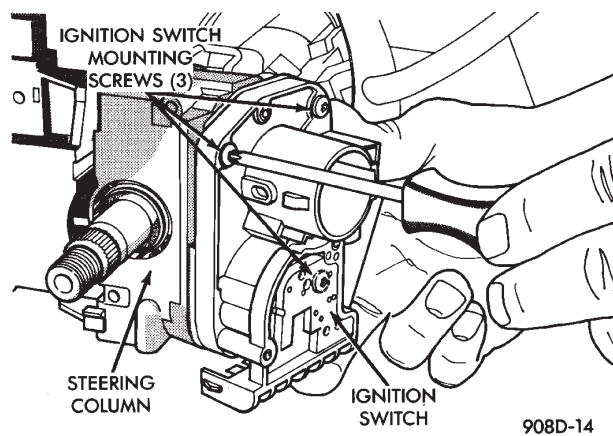

Fig. 1 Ignition Switch Screw Removal
- (1) Disconnect negative battery cable at battery.
- (2) Tilt column: Remove tilt lever (counterclockwise).
- (3) Remove upper and lower covers (three screws).
- (4) Remove ignition switch mounting screws (Snap-on torx bit tool TTXR20B0 or equivalent required—Fig. 1).